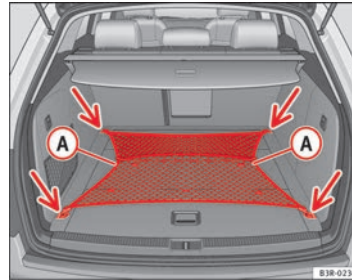

Fig. 116 Stretched luggage net
- Secure the luggage net to the four fastening rings -arrows- ⇒ Fig. 116.